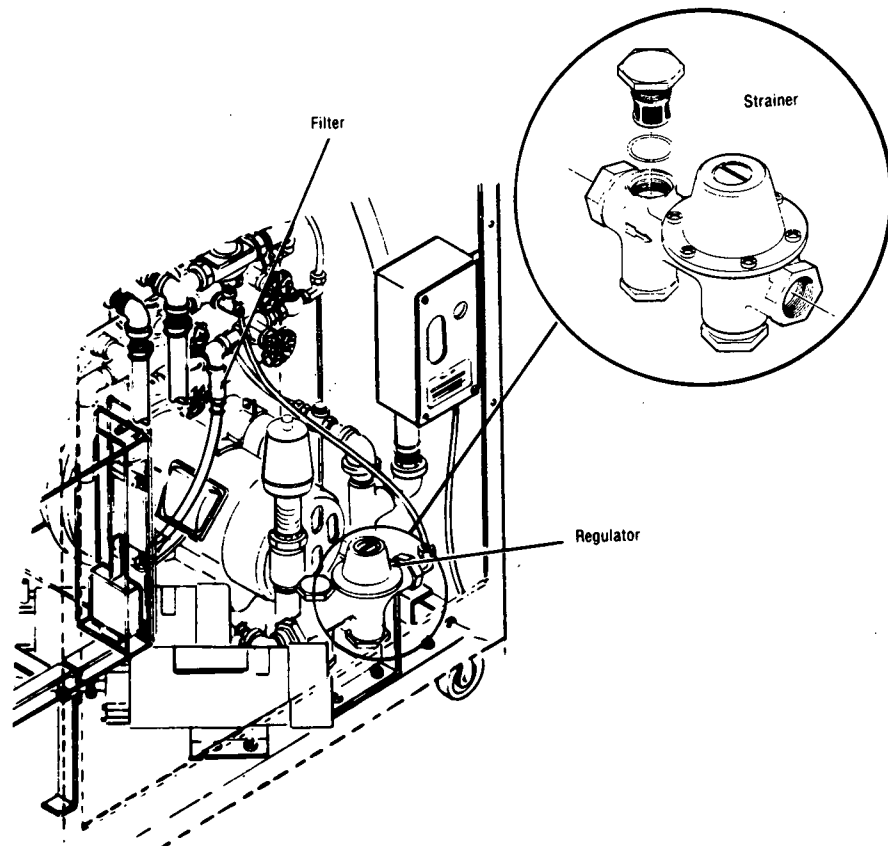

Figure 4-1. CLEAN FILTER AND STRAINER.
2. Remove the pressure regulating valve strainer and the disinfectant filter and clean out deposits. Replace if necessary. See Figure 4-1.